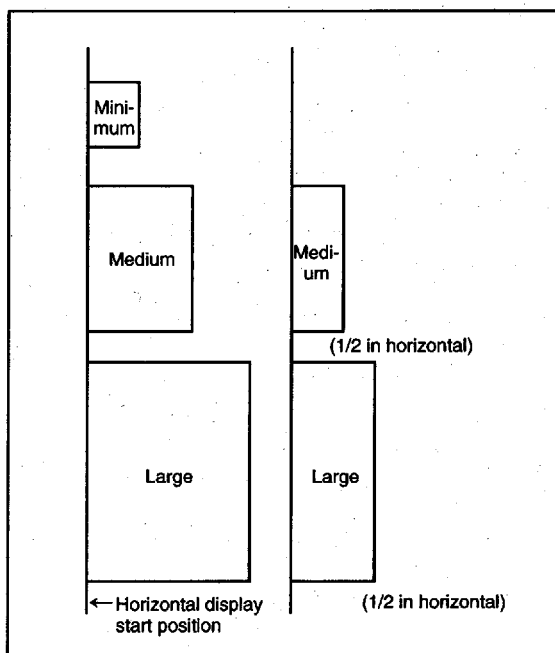

Fig. 54. Display start position of each character size (horizontal direction)
**Notes 1:** The display start position in the horizontal direction is not affected by the character size. In other words, the horizontal display start position is common to all blocks even when the character size varies with each block (refer to Figure 54).